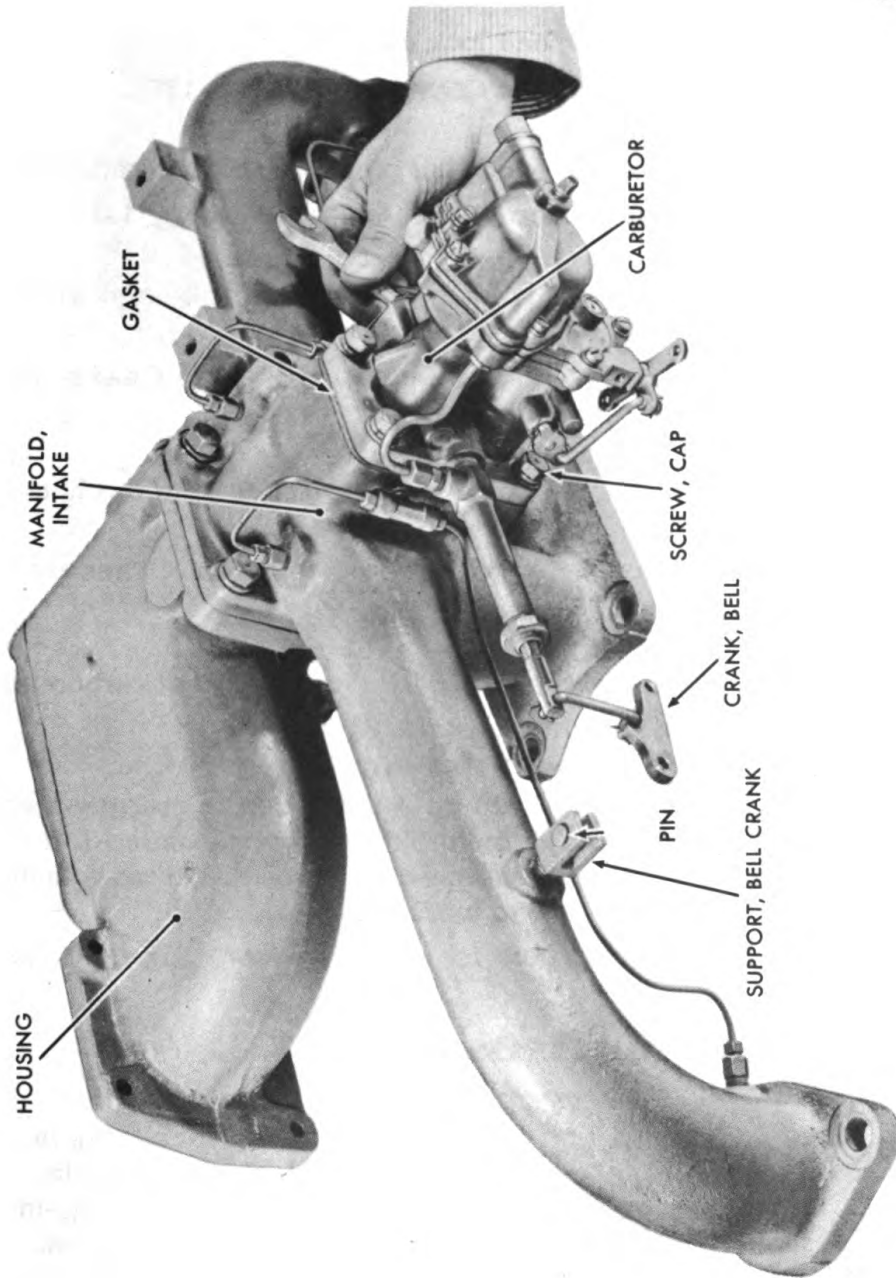

Figure 139 — Removing Carburetor from Intake Manifold
(12) **REMOVE CABURETOR FROM INTAKE MANIFOLD** (fig. 139). See paragraph 143 b (1).
(1) REMOVE CARBURETOR FROM INTAKE MANIFOLD (fig. 139).